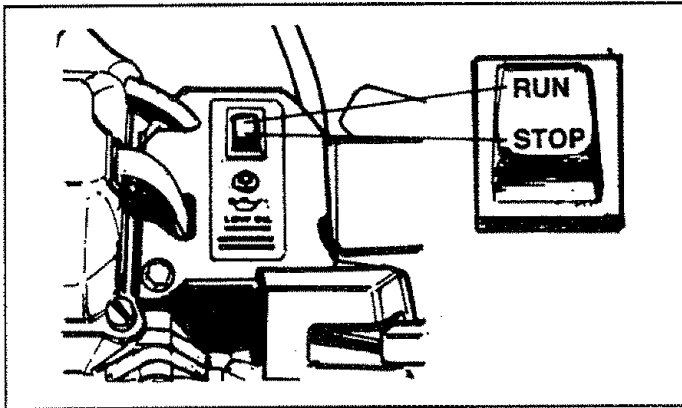

FIG. 9
- To attach the adjustable nozzle, refer to Operation section, Fig. 9.
- First, move engine RUN/STOP switch to "STOP" position (Fig. 9).